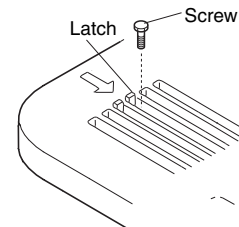

Fig. 3-15
Remove the air-intake grille and air filter from the ceiling panel. (Figs. 3-15, 3-16 and 3-17)
- a) Remove the 2 screws on the latch of the air-intake grille. (Fig. 3-15)